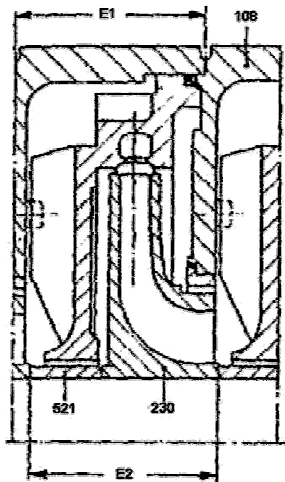

Figure 33 – Measuring stages
Prior to assembly, measure the axial length “E” of the stage casing (108) and the appertaining impeller (230) with stage sleeve (521). Any differences in length must be compensated for solely by machining the stage sleeve (521) so that  $E_1 = E_2$  (Fig. 33).